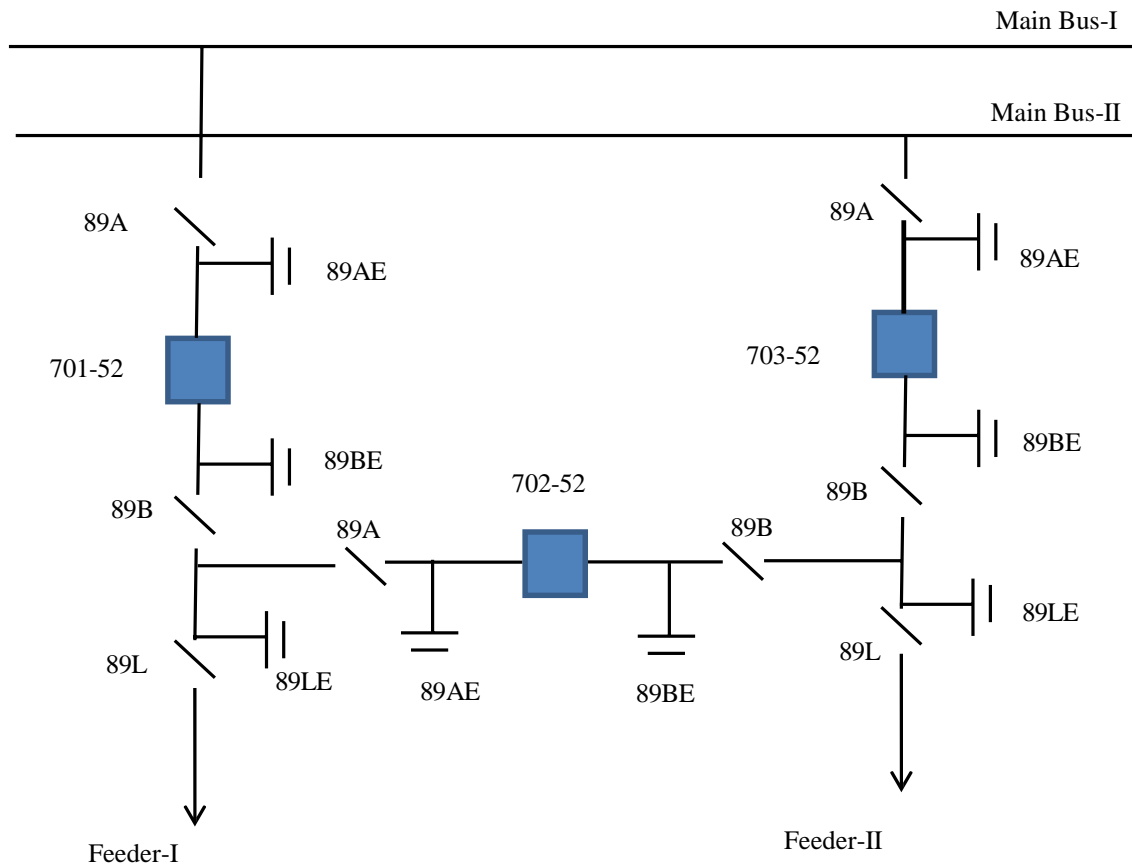

Figure-01
1. Main Bay CB (701) (Refer Figure-01)
2. Tie Bay CB (702) (Refer Figure-01)